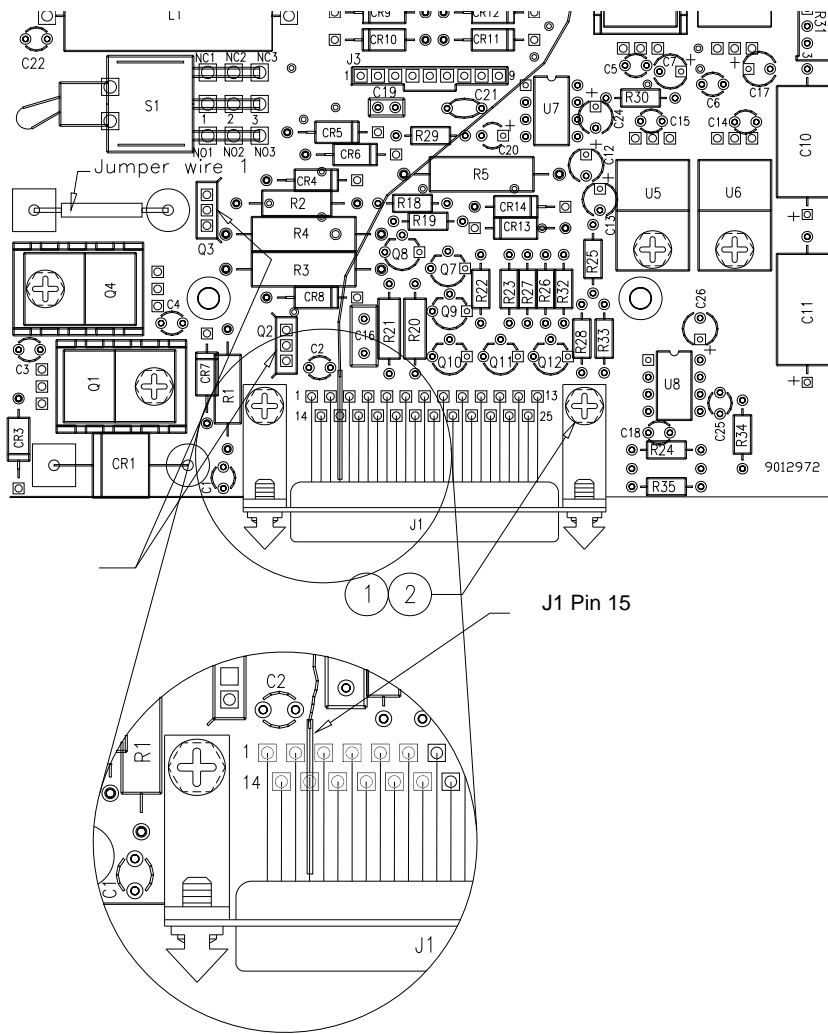

Figure 3
- J. On the component side of the circuit board locate Diode CR2. Refer to figure 3. Remove CR2 and replace with a length of buss jumper wire.
- S. Locate pin 15 of the main connector and gently cut it loose from the main electronic circuit board assembly. Refer to figure 3.